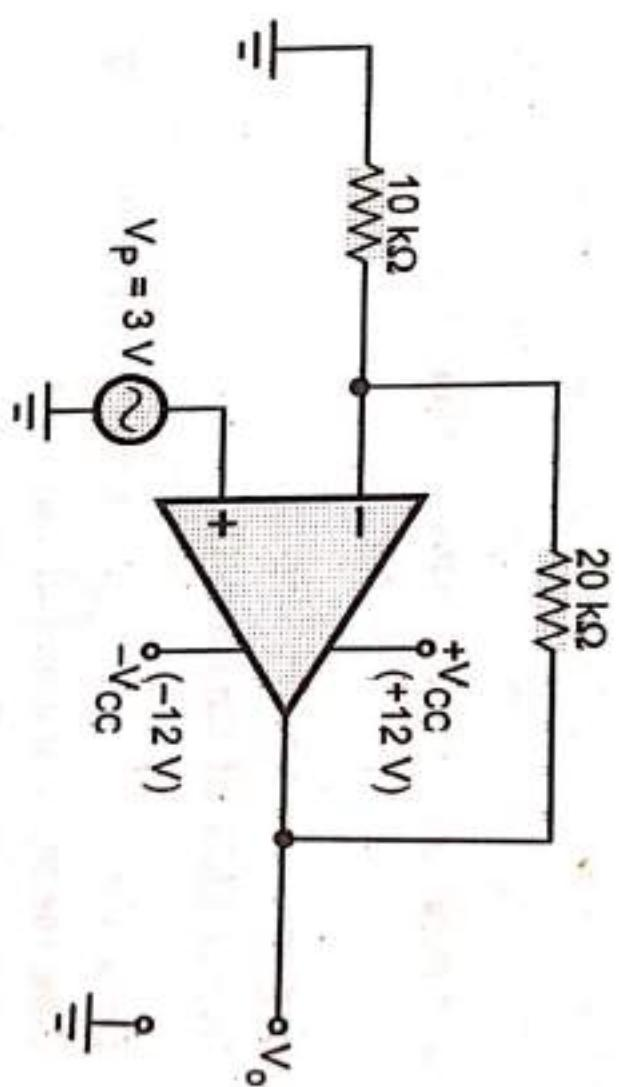

Fig. 1
- c) Calculate output voltage 'Vo' of Op - Amp circuit shown in Fig. 1. Draw I/P and O/P waveforms.